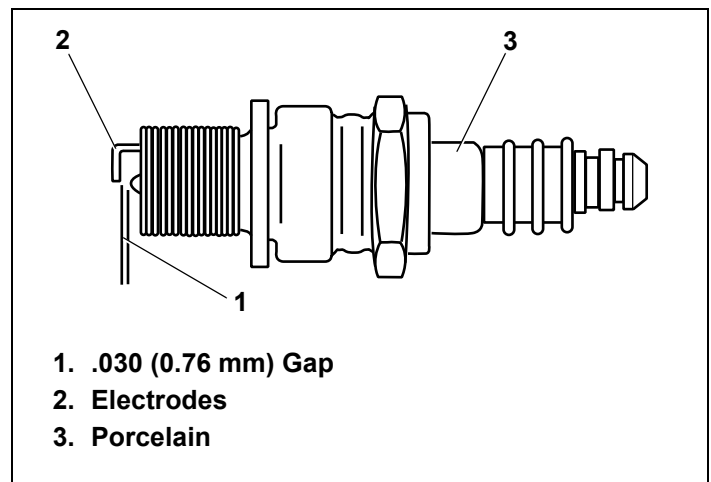

Figure 34. Resistor Spark Plug
4. Check electrode gap with wire feeler gauge and set gap to .030 (0.76mm) if necessary. See Figure 34.